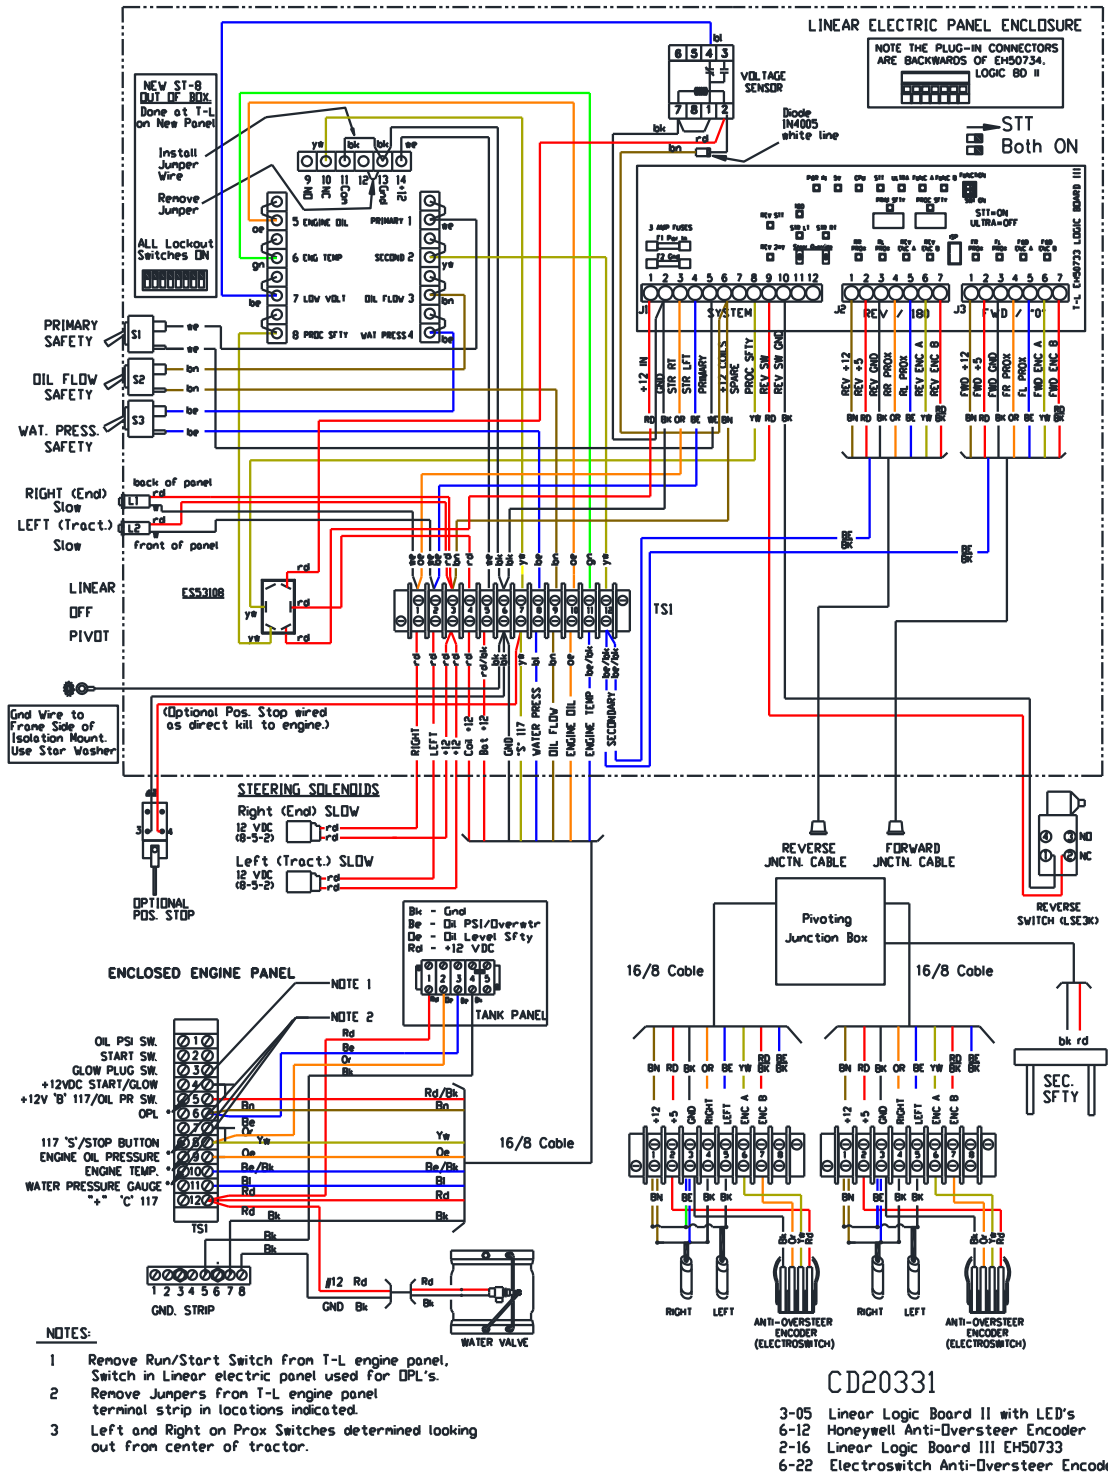

Figure 30. Wiring Diagram - Above Ground Cable with Pivoting Option
5. Wire Junction Box Extension Cables into the Linear Electric Panel as shown in Figure 30. NOTE that the Cable labeled Forward is wired to terminals 14-20 and the Cable labeled Reverse is wired to terminals 7-13 on the Logic Board.